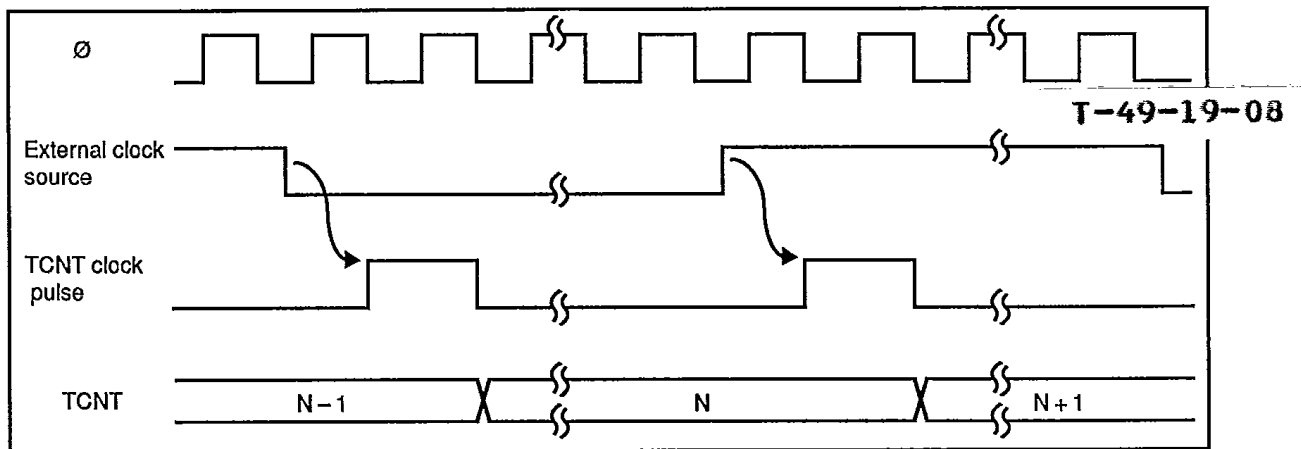

Figure 8-3. Count Timing for External Clock Input
**External Clock:** If external clock input (TMCI) is selected, the timer counter can increment on the rising edge, the falling edge, or both edges of the external clock signal. Figure 8-3 shows incrementation on both edges of the external clock signal.